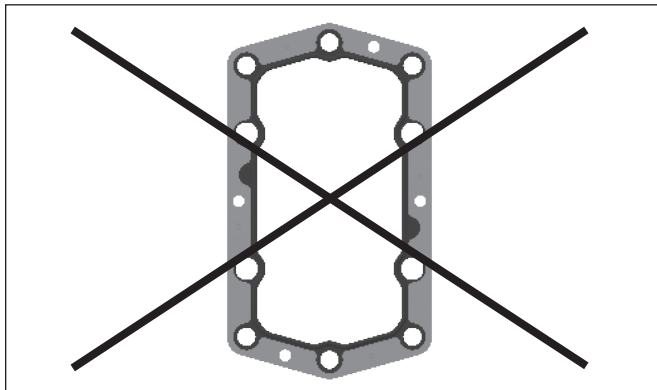
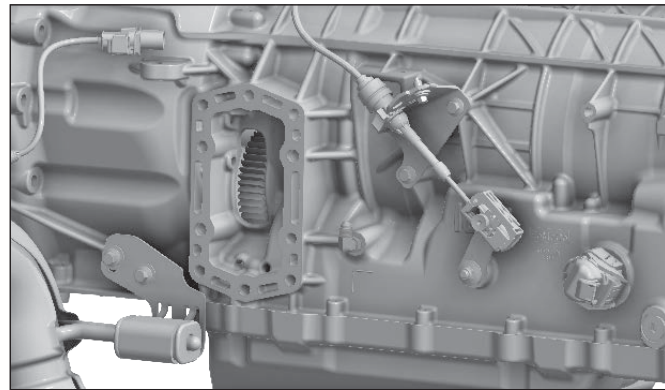

Figure 16
Figure 17
- 5. Remove and discard the PTO aperture cover plate and gasket. Do not use this gasket when installing the PTO (**Fig. 16 and Fig. 17**).